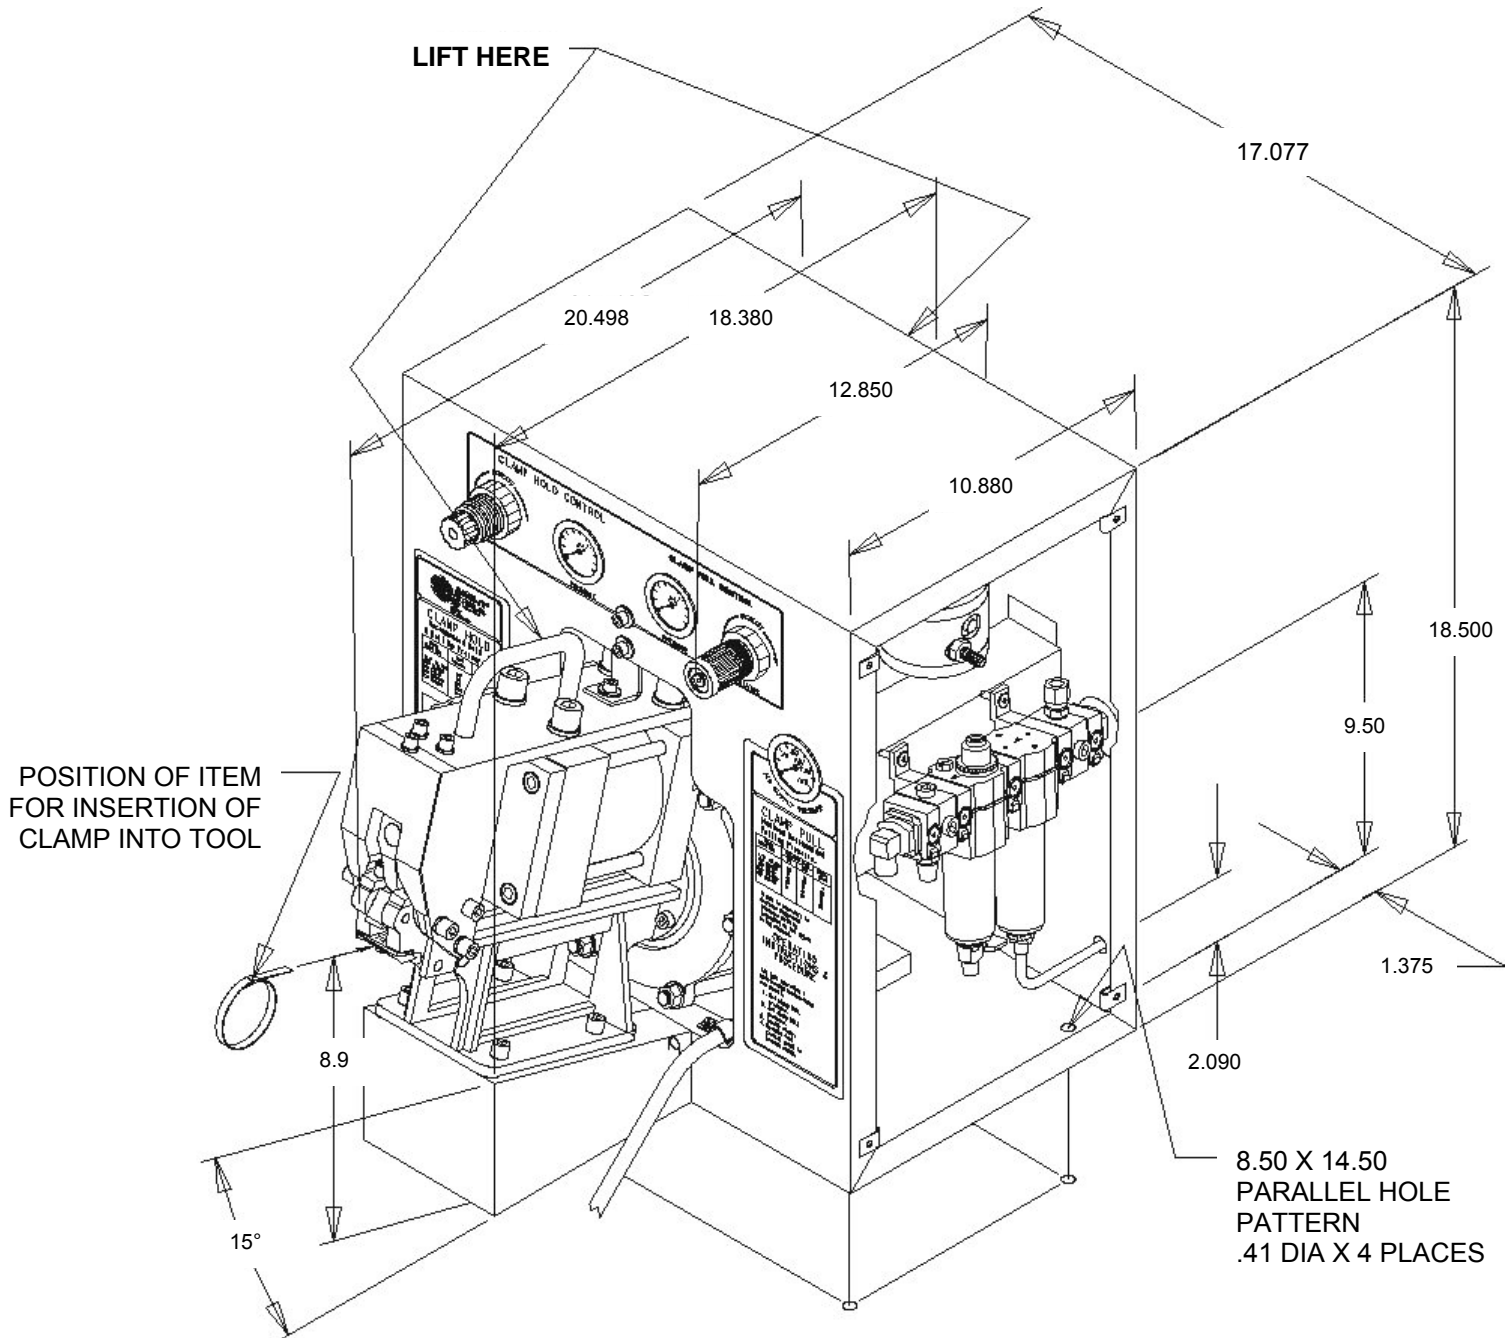

Figure 2 – Tool Overall Size
3. Remove the side panels (2) of the tool chassis. Keep the screws for reassembly. The tool is bolted to the bottom base of the shipping carton. Remove these screws.
6. **CAUTION:** The tool weighs approximately 117 pounds. The aid of a suitable lifting device is recommended for handling the tool. Use the lift points provided. See figure 2.
1. Locate the tool in its desired location, and secure the tool to the mounting surface with 5/16" diameter bolts (4). Place the foot control valve on the floor. See figure 2 for location of the bolts.
3. Prepare the incoming air line, the supply air should be clean (filtered) and free of moisture. Recommended air source hook up should be done with a quick-disconnect coupling such as a Hansen 3000 series 1/4 npt socket and plug, or equivalent. For permanent hook up, use of a shut-off valve in the air line is recommended to enable shut-off of the incoming air when servicing the tool. Route the air line through the access hole in the rear of the chassis. Alternate routing of the supply air can be done through the bottom of the chassis. Connect the air line to the tee fitting in the inlet port of the filter. See figure 2.